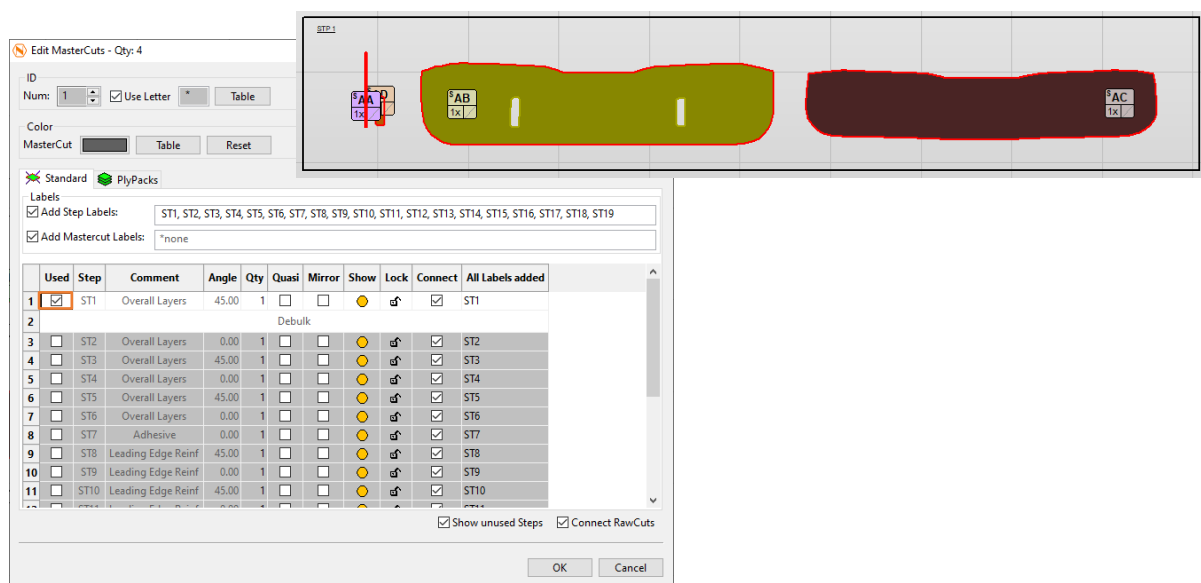

Figure 277
73. Repeat these steps for the overall MasterCuts of STP 1 (Figure 277)...